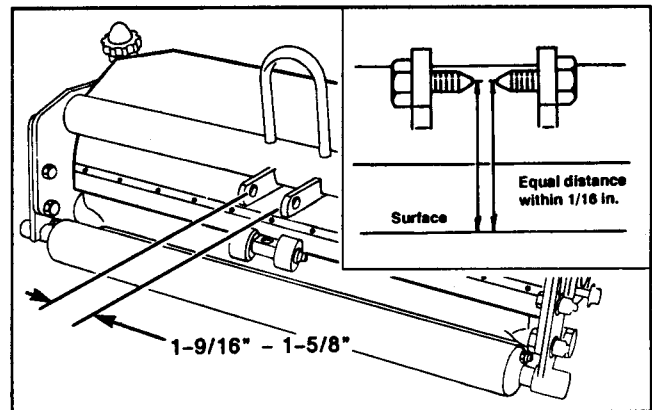

Figure 29
9. With frame on level surface and pivot set screws installed, measure from flat surface up to end of each setscrew (Fig. 29). If not within 1/16 in. of each other, carefully bend frame supports to line up screws. Remove pivot set screws. Measure distance between frame pivot supports (Fig. 29). If dimension is not between 1-9/16 in. and 1-5/8 in., carefully bend supports until correct.